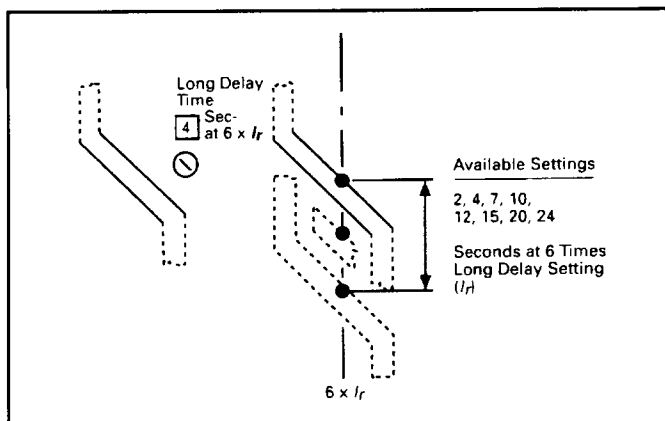

Fig. 8.2 Long Delay Time Settings
There are eight (8) available Long Delay Time Settings, as illustrated in Fig. 8.2, ranging from 2 to 24 seconds. These settings are the total clearing times in seconds, when the current value equals six (6) times I_r . The (LS) Time-Current Curve applicable for your circuit breaker gives complete details. (See Section 6.)